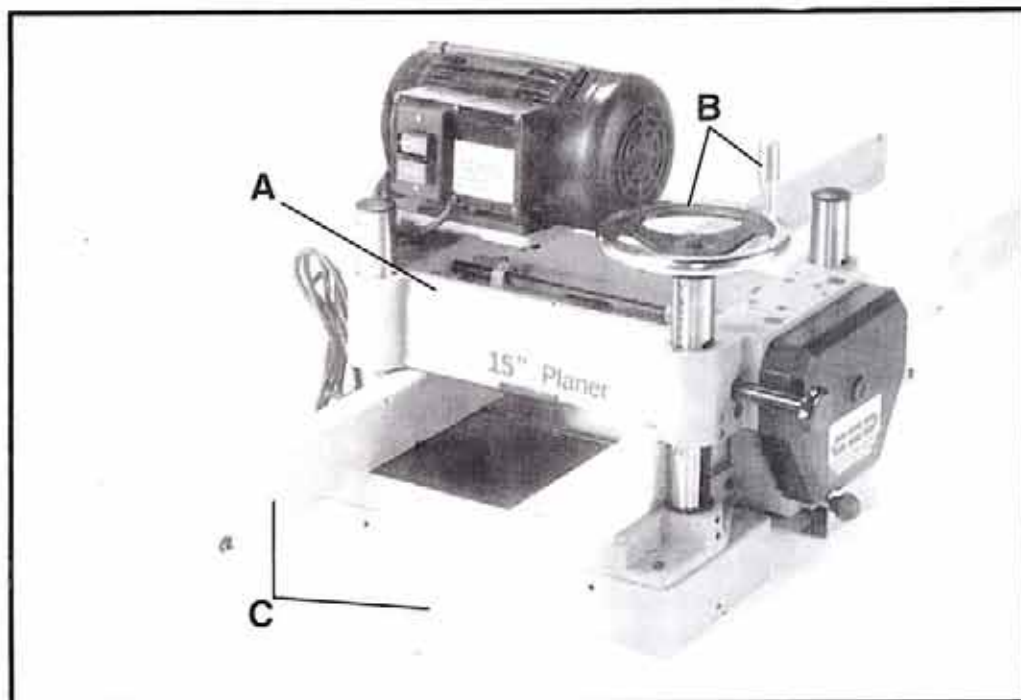

Fig. 12
2. Raise the cuttinghead (A) Fig. 12, by turning the raising and lowering handwheel (B) clockwise, and insert two 6 or 8 foot long 2×4 's (C) between the cuttinghead and table as shown. Make sure the 2×4 's (C) are positioned solidly between the table and cuttinghead so they will not rotate during lifting. Then with two people on each end of the 2×4 's, move the machine to its desired location.